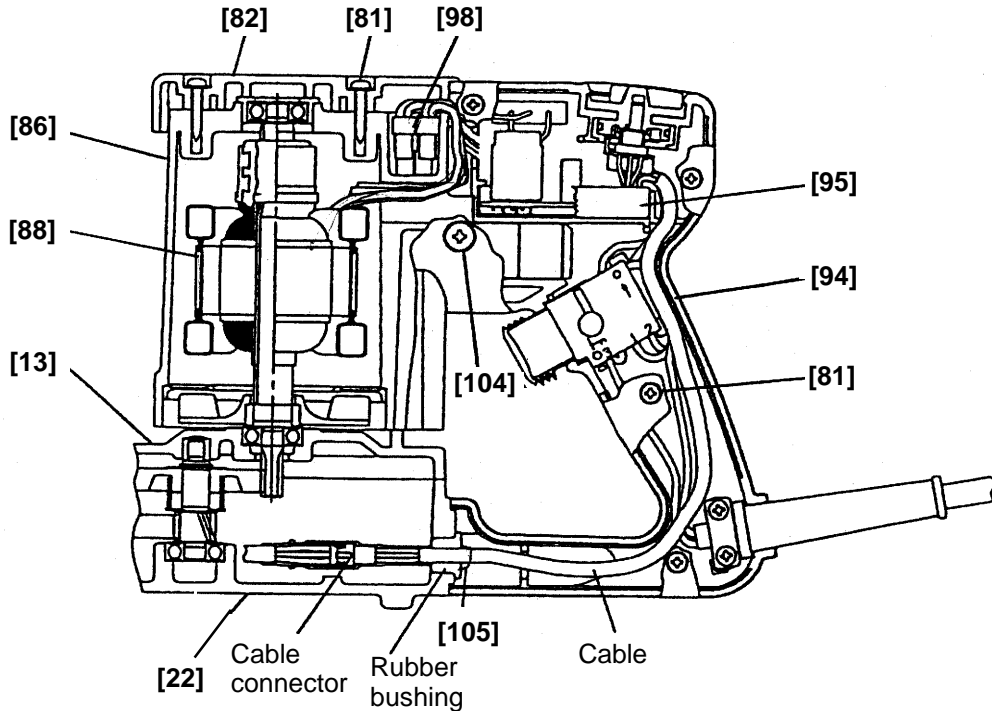

Fig. 10
(1) Disassembly of the handle (Fig. 10)
1) Removal of the Controller Circuit [95] (Fig. 10)